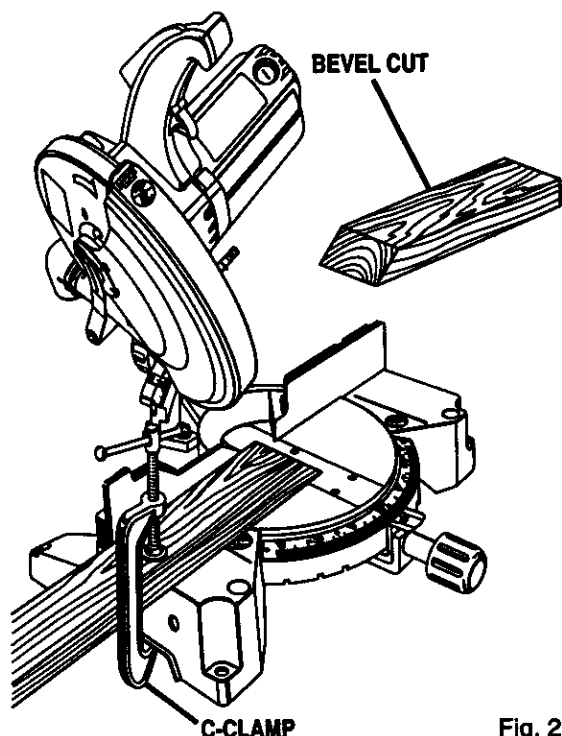

Fig. 28
- Grasp the stock firmly with one hand and secure it against the fence. Use the optional work clamp or a C-clamp to secure the workpiece when possible. *See Figure 28.*
- Slowly lower the blade into and through the workpiece. *See Figure 28.*